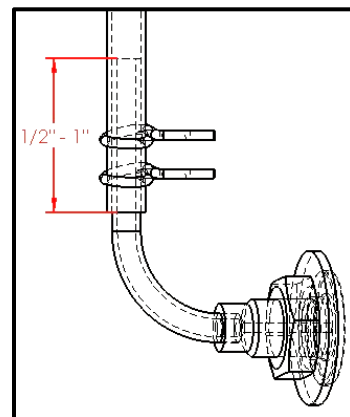

FIGURE 7 - Poly-Flo Tubing Overlap
10. Install static port into the poly-flo tubing, making sure there is a $1/2$ "-1" overlap (see Figure 7). Once the tubing is fitted onto the static port, feed both parts back through the hole.